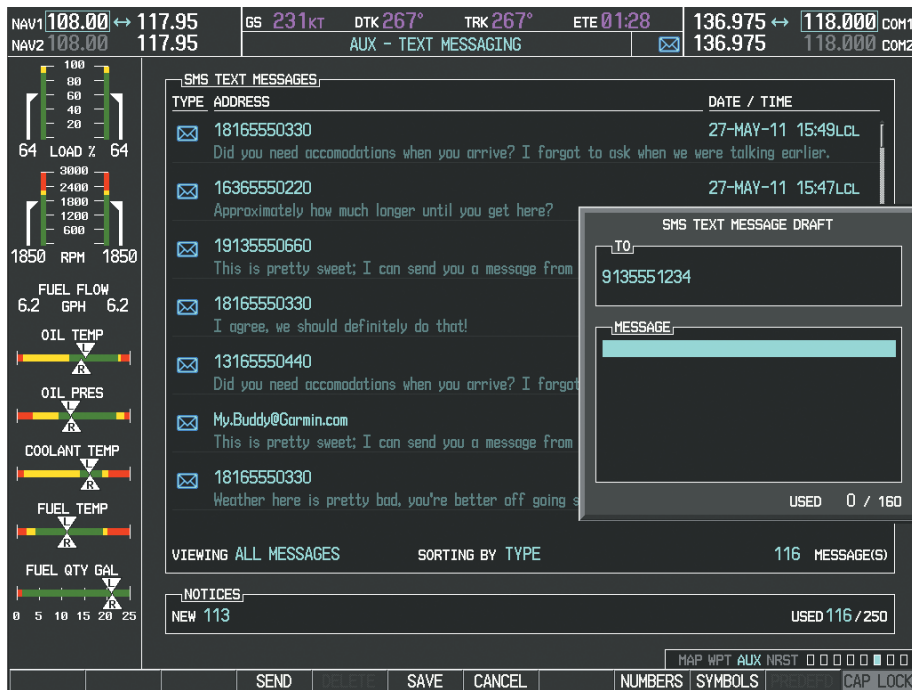

Figure 8-91 Composing a New Text Message
- 2) The TEXT MESSAGE DRAFT Window is now displayed with the cursor in the 'TO' field. Enter the desired telephone number or email address. Entry can be accomplished through the alphanumeric keys on the MFD Controller, or combination of the **FMS** Knob on the controller and softkeys on the MFD. The **FMS** Knob is used to enter letters and numbers, or numbers can be entered from the MFD by selecting the **NUMBERS** Softkey. Press the **CAP LOCK** Softkey to create upper and lower case alpha characters. Special characters can be accessed by selecting the **SYMBOLS** Softkey. See Figure 8-91.